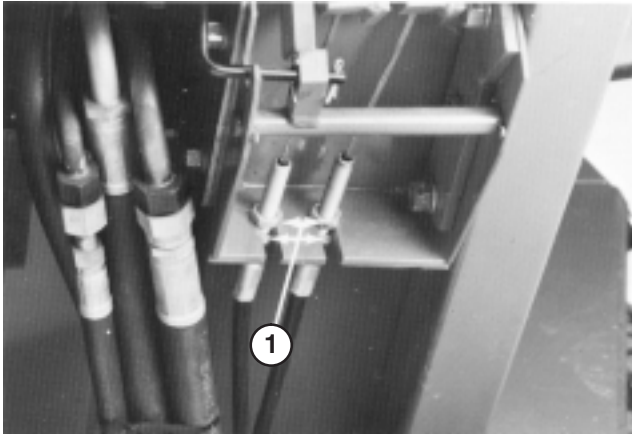

Figure 45
1. To reduce free travel of turn pedals—tighten the brakes—loosen front nut on threaded end of brake cable (Fig. 45). Then tighten rear nut to move cable backward until turn pedals have 1/2 to 1 inch (13 to 25 mm) of free travel. Tighten front nut after brakes are adjusted correctly.